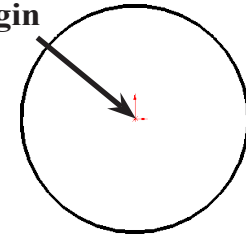

Fig. 2
Step 4. Draw a circle starting at the Origin , **Fig. 2**.
Step 5. Click **Smart Dimension**  (S) on the Sketch toolbar. **Origin**